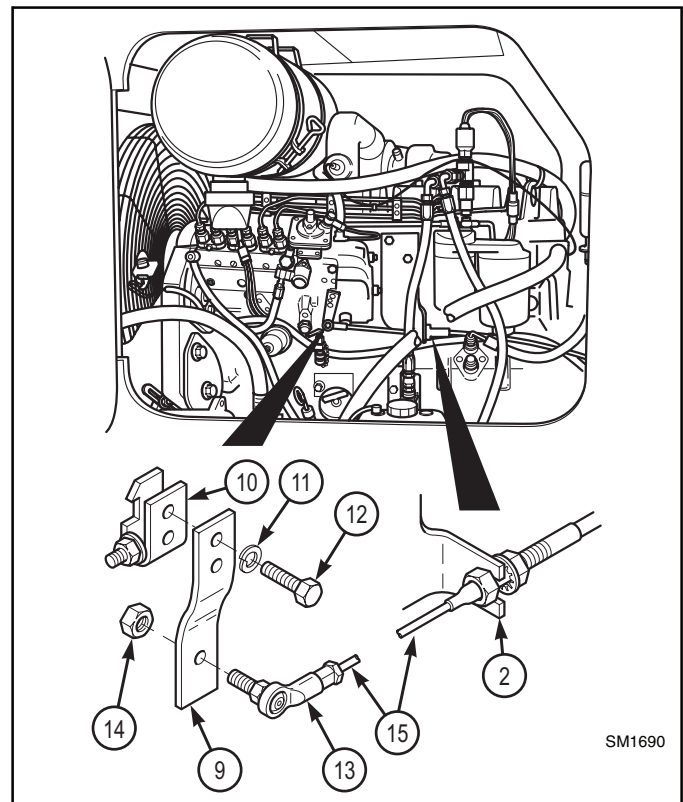

Figure 18
- (From the kit) install throttle strip bracket #6617792 (9) on fuel injection pump linkage (10) of new engine block with two lockwashers # 8307024 (11) and screws # 8310034 (12). (Figure 18).
- (From the kit) temporarily install rod end # 8340034 (13) on throttle strip bracket (9) with locknut # 8305650 (14). (Figure 18).
#### INSTALLATION (Figure 18)